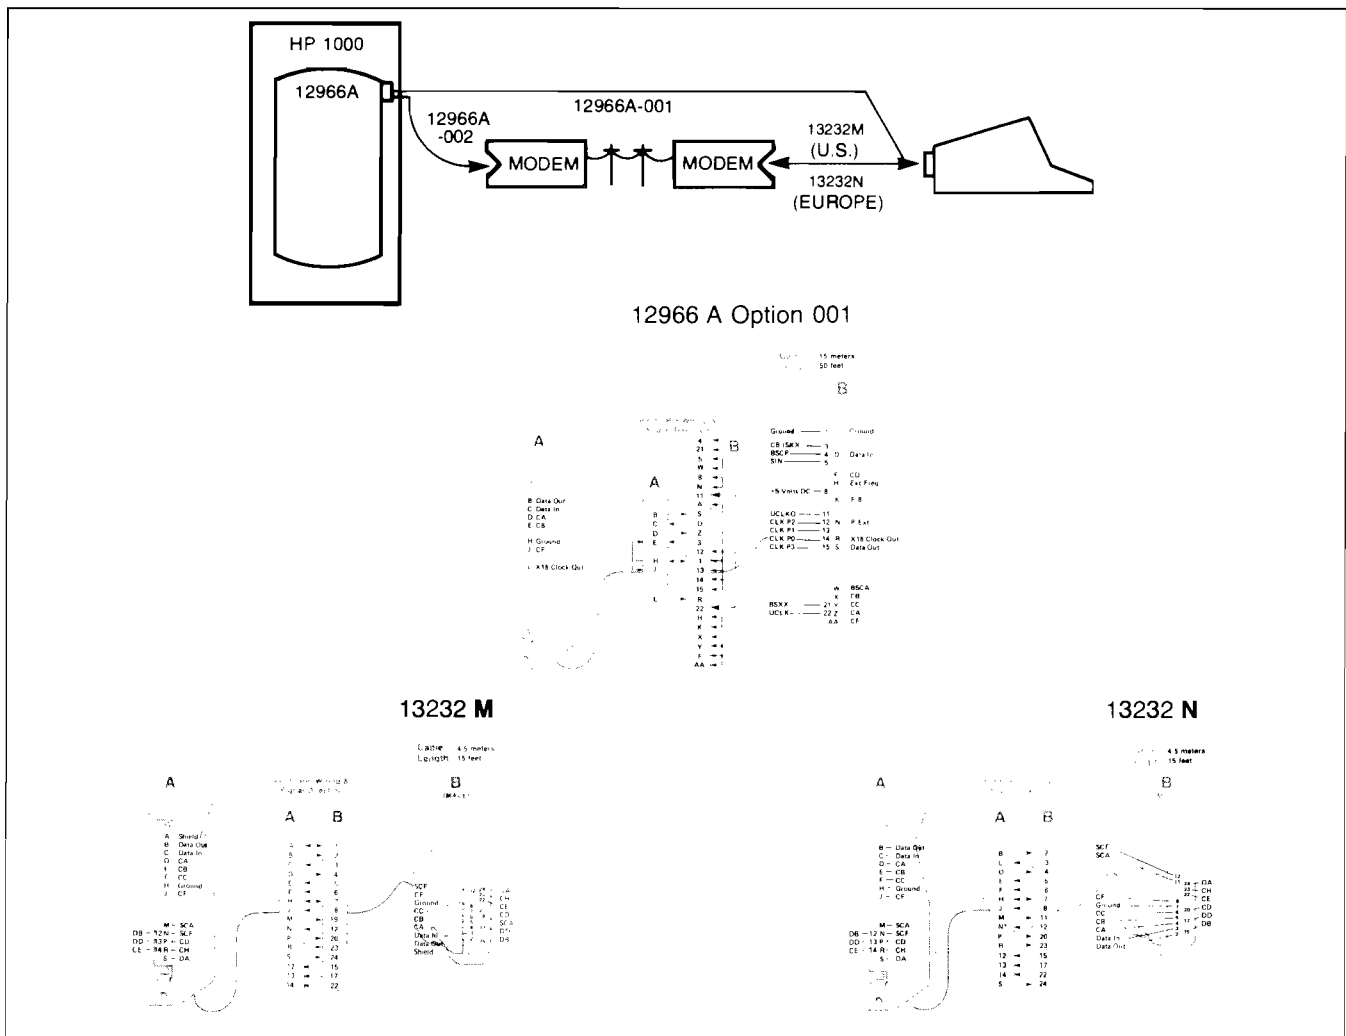

Figure 1-10. Connecting the Terminal to the HP 1000 Computer System with the HP 12966A Interface
To connect the HP 2647A terminal to an HP 1000 Computer System using an HP 12966A interface, refer to figure 1-10 and perform the following:
- BLOCK MODE: UP (OFF) or DOWN (ON)
7. Connect the following cables (see figure 1-10):